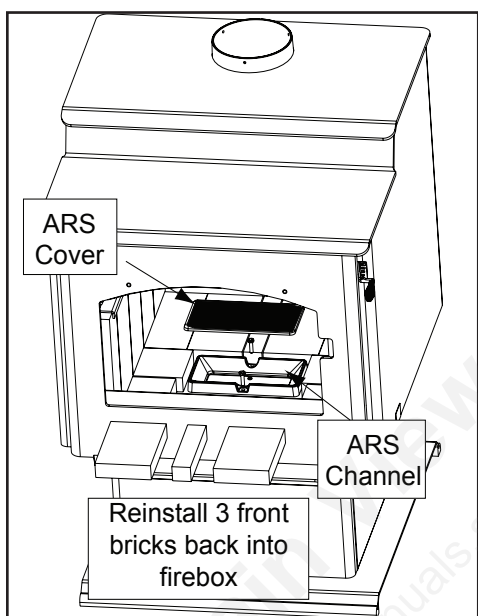

Figure 18.2
1. Replace front 3 bricks that were removed in step 1 (**Figure 18.2**).
3. Install ARS access cover inside of ARS Channel that is located inside the firebox (**Figure 18.2**).